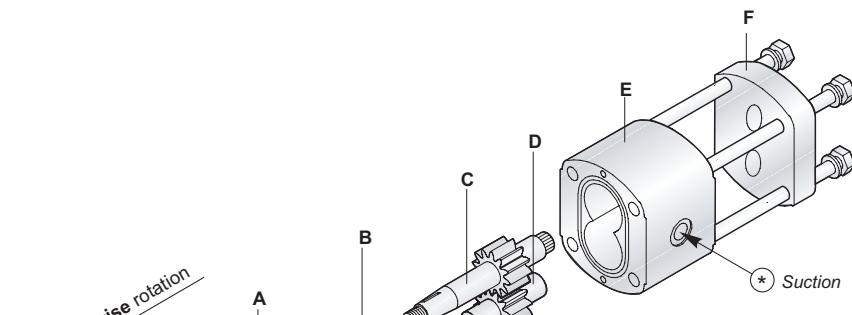

Fig. 1
- Disassemble pump as shown in figure 1.